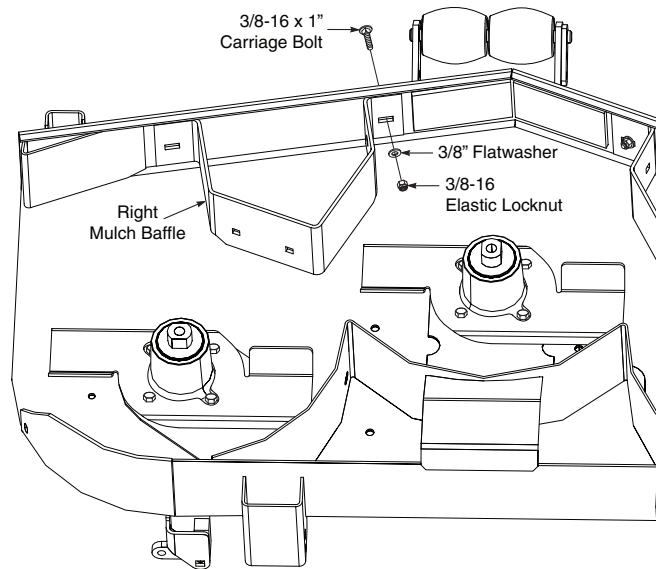

Figure 4. R.H. Mulch Baffle Installation
8. Install the R.H. Mulch Baffle to the cutter deck as shown and secure using one 3/8-16 x 1" carriage bolt, 3/8" flatwasher and 3/8-16 elastic locknut. Do not tighten the hardware at this time. See Figure 4.